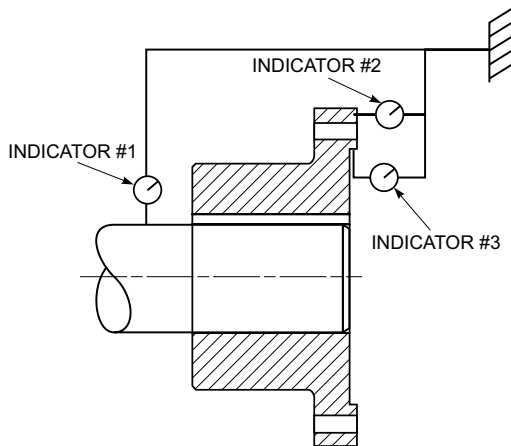

Figure 4
2. Check both shafts for runout to ensure shafts are not bent. Refer to Figure 4.
- b. Mount hub flush with face of shaft. Allow hub to cool before proceeding. Refer to Figure 4.
- c. Check that the hub is correctly positioned on the shaft, then using dial indicators, check hub runout as illustrated in Figure 4. Checking the hub runout ensures correctness of hub mounting and will reduce drive movement. Make sure runout values do not exceed limits listed in Table 1. If runout is excessive, remove hub following the removal instructions, and carefully remount the hub to the shaft.